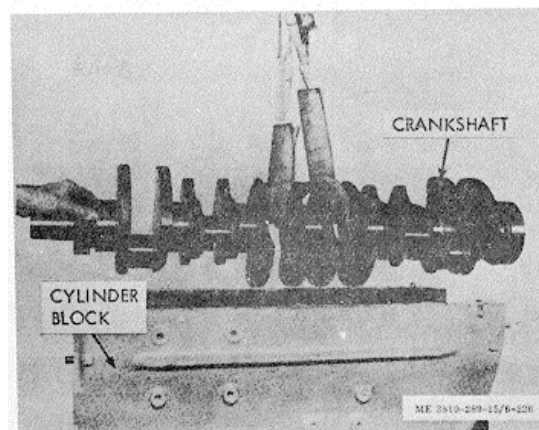

Figure 3-218. Lift crankshaft from block.
(4) Remove main bearing shells from crankshaft (if they did not adhere to caps).
(5) Lift crankshaft from cylinder block, using hooks covered with rubber hose, or a rope, to prevent bearing surface damage, figure 3-218. Remove upper main bearing shells.
(6) Tape lower and upper main bearing shells together and identify according to cylinder number for future reference.